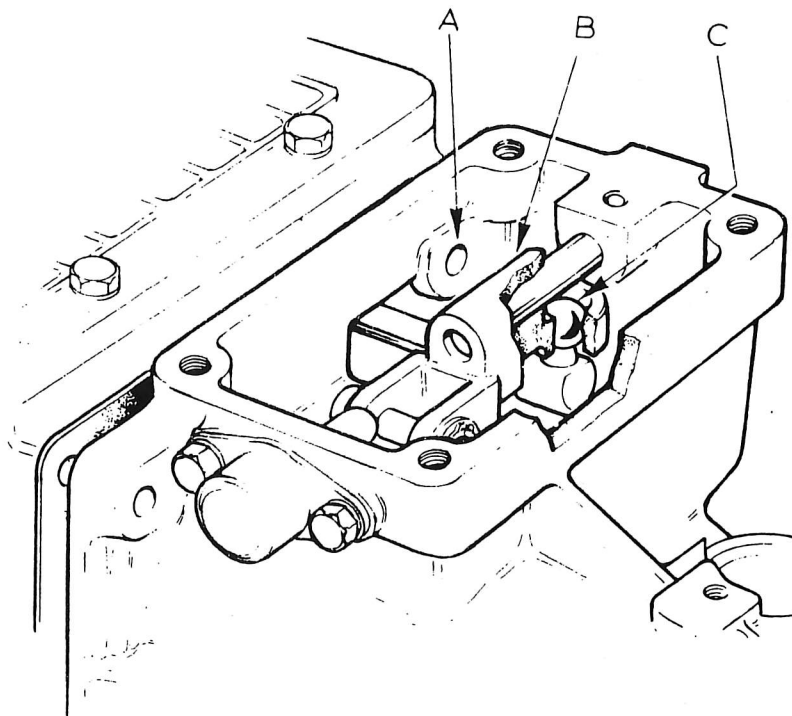

Fig. 11. OUTPUT SHAFT HOUSING
1. Fit gearbox to the engine. Select 4th. gear, then remove gearshift lever. If the gears are left in Neutral when the lever is removed, there is a possibility that the selector link (B, Fig.11) may become detached from the selector extension shaft ball end (C, Fig.11).
4. Release the seven bolts securing the output shaft (tailshaft) housing to the main casing, noting that one of the seven bolts is located inside the output shaft housing at the upper R/H corner (A, Fig.11). Ease the selector link (B, Fig.11) from the selector extension shaft ball end (C, Fig.11) and remove output shaft housing together with its gasket. Do not misplace ring dowels.